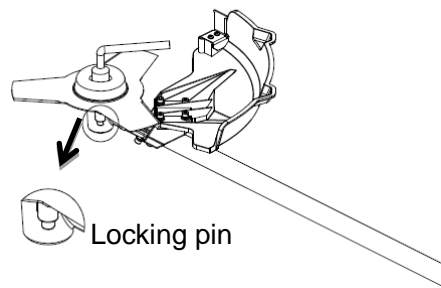
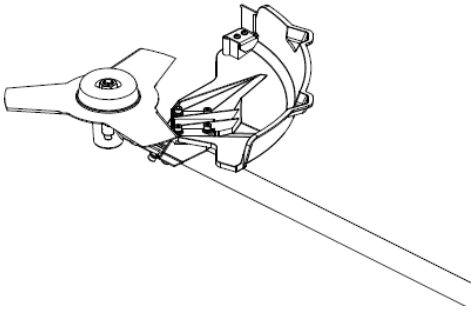

Fig. 35B
Fig. 35C
2. Press the locking pin and, at the same time, turn the nut clockwise with the wrench provided to assemble it. (Fig. 35B/ Fig. 35C)